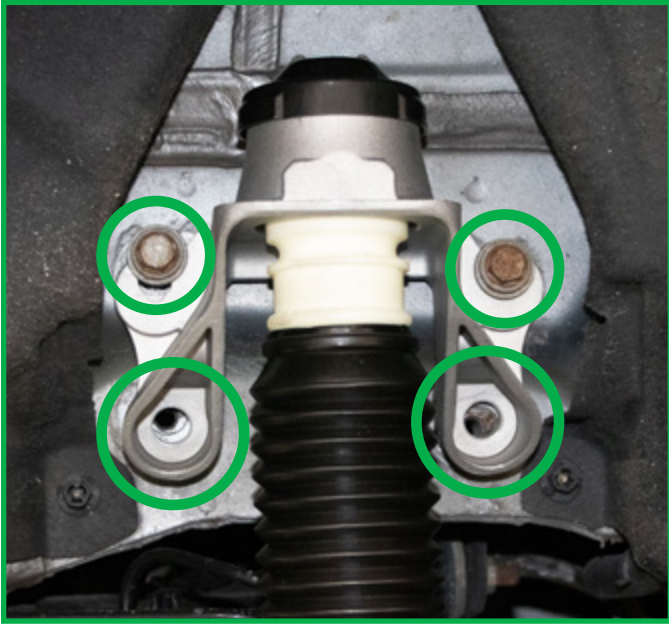

FIGURE 9
2. Install the upper shock mount bolts. Tighten to manufacturer's specifications. (Figures 9, 10)